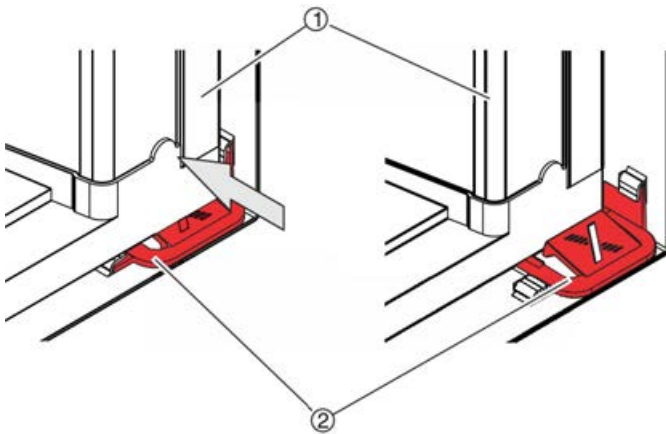

Fig. 22: Filter element locks in place
6. ▶ Push the new filter element (Fig. 22 /1) in and over the quick release fasteners (Fig. 22 /2) until it locks into place.